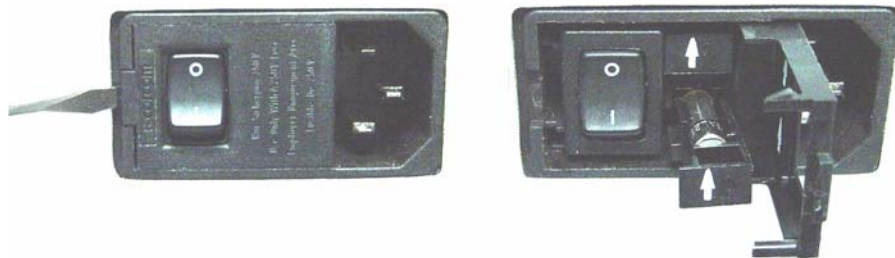

Figure 5-1. Fuse Holder within Input Module
3. Using a small flat-blade screwdriver, carefully pry under the tab above the rear panel power switch to open the cover and gain access to the fuse holders as shown in the Figure 5-1.